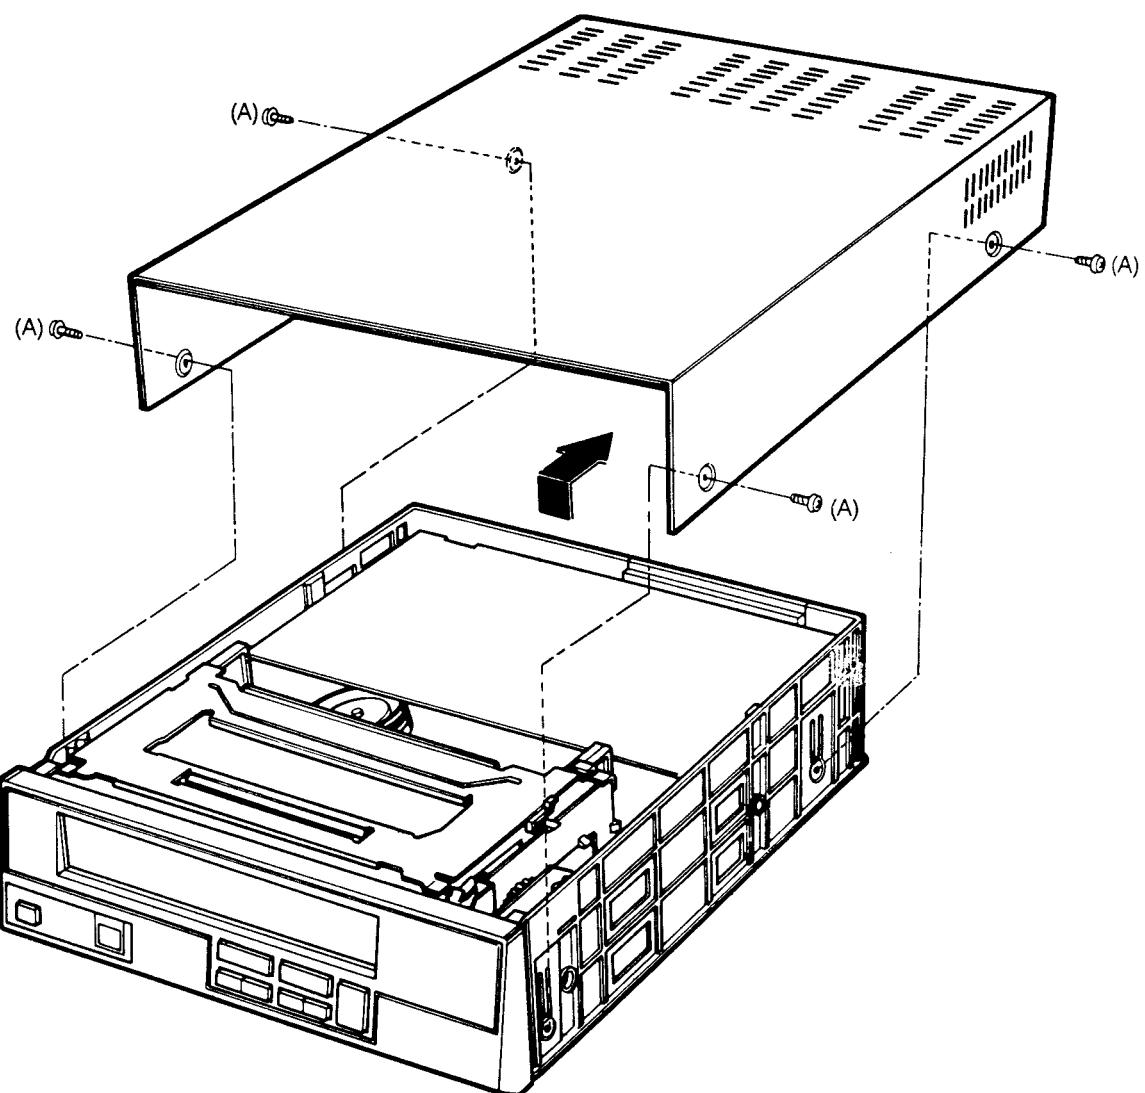

Fig. 2-1-1
#### 2-1-1 Top Case(Fig. 2-1-1)
- A. Remove four screws (A). (See Fig. 2-1-1)
- A. Remove the Top Cover. (See Fig. 2-1-1)